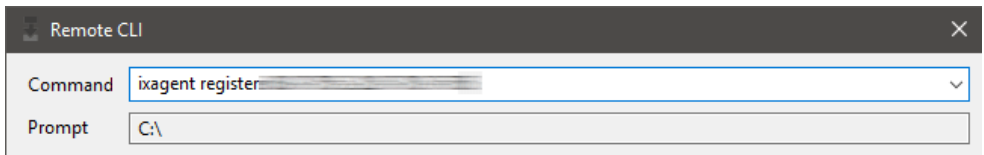

Figure 5.44 Executing the register command in the Remote CLI.
1. Using the Remote CLI, execute the command “ixagent register companyID” (Figure 5.44). The RAP company ID may be found from the RAP interface under “My Company” (Figure 5.45).